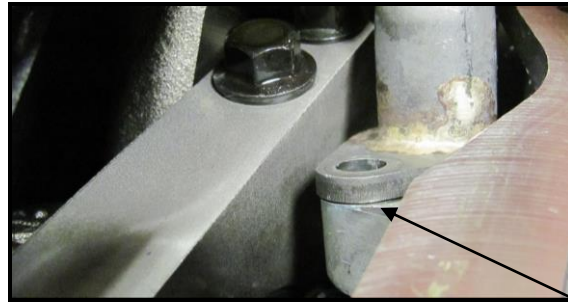

Figure 7
3. Install the new Holley® oil pump pickup screen assembly ensuring that oil pump pickup screen tube is pushed completely into the oil pump before tightening the bolt (Figure 7). Do not allow the bolt to pull the tube into the pump.